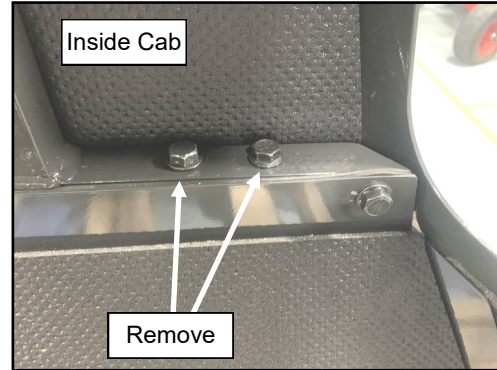

Fig. 5.5a (Remove Rear Bolts)
- 5.5 See figures 5.5a and b. Put tension on the lifting strap with the overhead hoist. Remove and discard the 4 bolts holding the rear of the cab down to the shipping bracket (located inside the cab) as well as the 4 lag screws holding the floorboards to the pallet.